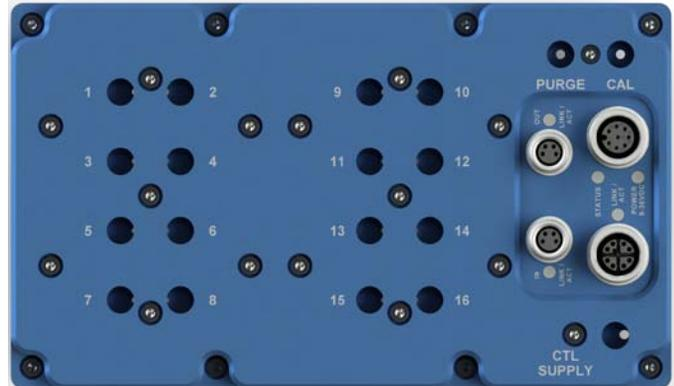

FIGURE 2.6 - DSA5000 ABSOLUTE 16APX TOP VIEW
The DSA5000 Absolute 16APx module can be used for absolute pressure measurement when equipped with absolute pressure transducers. A calibration valve is provided for each group of eight (8) sensors (no reference port). All sixteen (16) transducers are tied a single calibration port. An absolute module will provide pressure values as an absolute value. Figure 2.6 depicts the top panel of a DSA5000 Absolute 16APx pressure module.